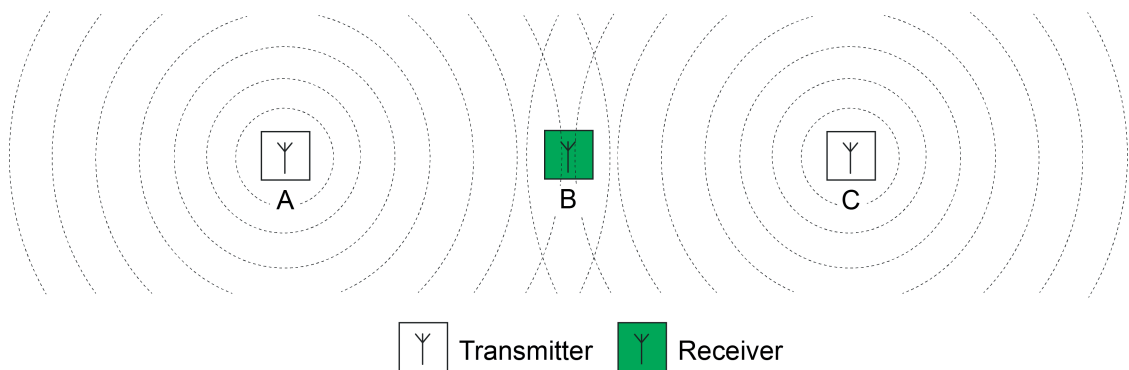

Figure 22: Radio collisions on the receiver due to the transmitter being too far away
The described transmission method for controlling media access generally prevents radio collisions in a KNX RF environment, but cannot exclude them completely. For example, it may occur that, in the case of a transmission between an RF transmitter (A) and an RF receiver (B), there is an additional RF transmitter (C), which is located within the range of the RF receiver, but cannot reach the other RF transmitter due to the spatial distance (figure 22). In such a case, the two RF transmitters are unable to detect when the other transmits radio signals (Hidden Station Problem). In consequence, radio collisions can occur on the receiver located in the range of the two RF transmitters.